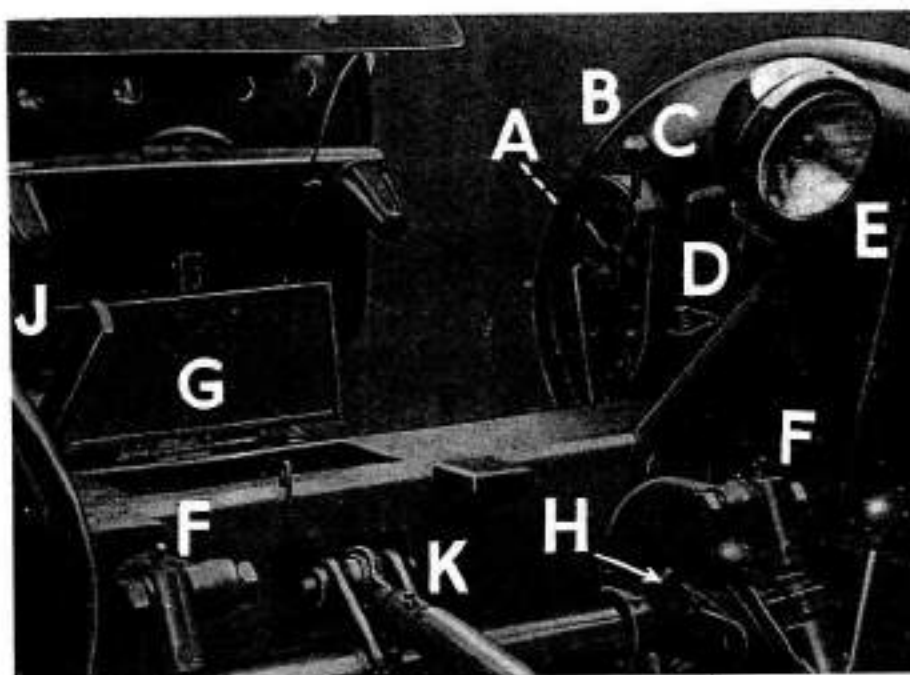

FIG. 5
ISOLATING SWITCH (D, Fig. 5)
HAND CLUTCH LEVER (J, Fig. 5)
POWER LIFT CONTROL (A, B and C, Fig. 5)
1. Move the Control Lever to the highest position A, Fig. 5. The control lever is spring loaded and when released automatically returns to the holding position B, Fig. 5.
2. When the load is fully raised allow the control lever to return to the holding position at the notch B, Fig. 5.
3. Press the control lever outwards from the notch and move the lever to position C, Fig. 5. The rate of lowering can be controlled by regulating the movement of the control lever.